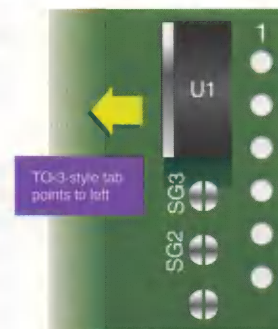

Figure 3. Installing U1
- 3. Battery Operation:** Open SG4 and install U1 (LM7805CT) with its metal tab facing to the left as shown in Figure 3. Allowable input power ranges (J1, pins 5 and 6) are as follows: